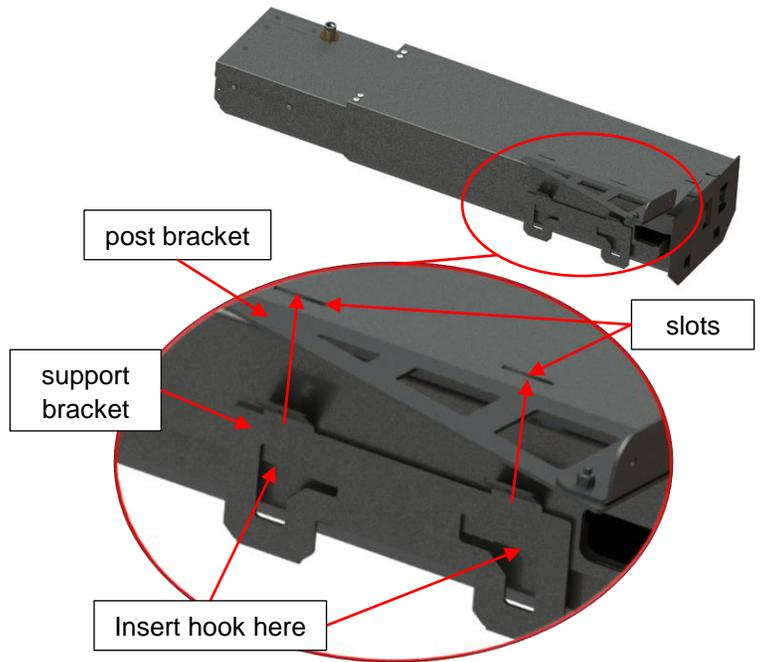

Figure 64
- 3) Insert the side support bracket hook in the notch of the outer sleeve. (Figure 64)
- 4) Slide on the post bracket on the side support bracket using the slots as guide. (Figure 64)